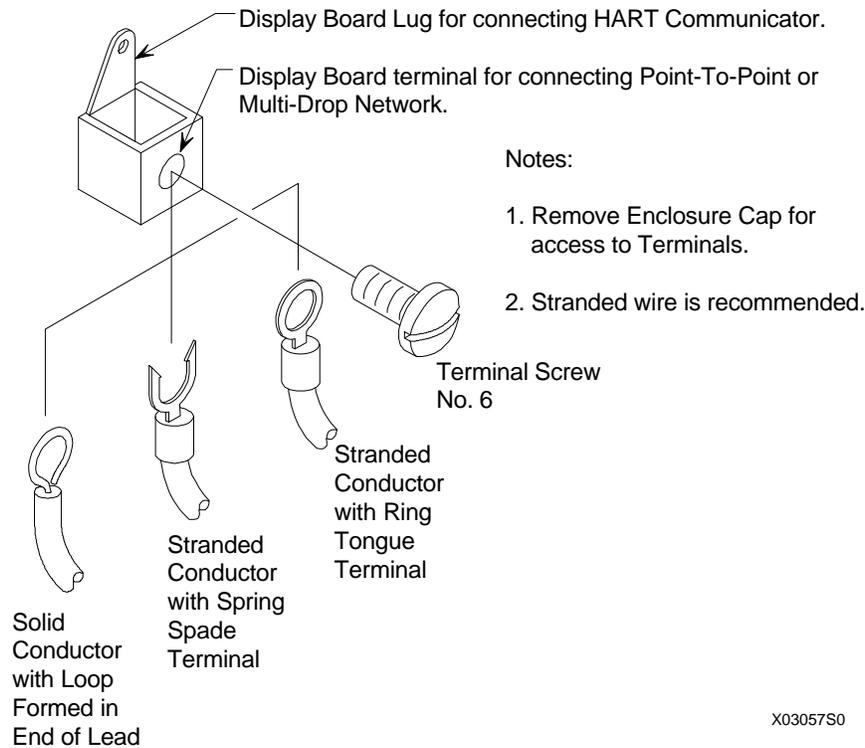

FIGURE 4-17 Conductor Terminations
This section describes loop wiring for Point-to-Point and Multi-Drop networks. Refer also to Section 4.8 for installation in hazardous locations. Figure 4-17 shows typical conductor terminations.
2. Determine method of connection to transmitter signal terminals; see Figure 4-17 for typical connection methods.